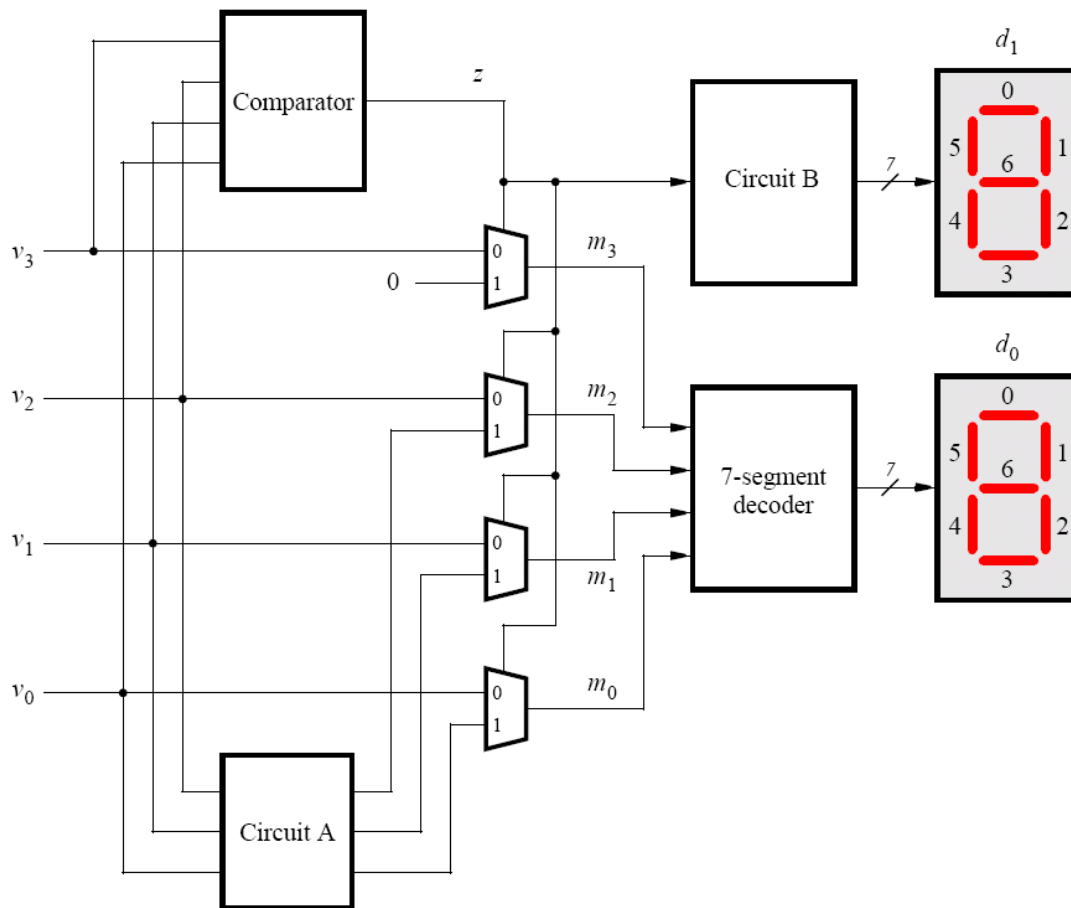

Figure 4 - Partial block scheme of the system that implements the binary-to-decimal conversion circuit.
You need to design a circuit that converts a four-bit binary number  $V = v_3 v_2 v_1 v_0$  into its equivalent two-digit decimal number  $D = d_1 d_0$ . Table 3 shows the required output values. A partial design of this circuit is given in Figure 4. It includes a comparator that checks when the value of  $V$  is bigger than 9, and uses its output to control the 7-segment displays. You need to complete the design of this circuit by creating a VHDL entity, which includes the comparator, some multiplexers and circuit *A* (do not include circuit *B* or the 7-segment decoder at this point). Your VHDL entity should have the four-bit input  $v$ , the four-bit output  $m$  and the output  $z$  (see Figure 5).
3. **Comment your VHDL code** and **include circuit *B*** in Figure 4 **as well as the 7-segment decoder**. Here the idea is to have a separate entity for the BCD converter and to reuse the previous VHDL exercises for the upper level architecture. Change the inputs and outputs of your code in such a way that switches *SW*3-0 on the DE2 board are used to represent the binary number  $V$ . Moreover, use the displays *HEX*1 and *HEX*0 to show the values of the decimal digits  $d_1$  and  $d_0$ . Make sure you include the required pin assignments for the DE2 board in the project.
1. **YOU NEED TO WRITE THE VHDL CODE OF THE COMPLETE CIRCUIT IN FIGURE 4, CIRCUIT A, CIRCUIT B, MUXES... YOU CAN REUSE PART OF THE CODE OF THE PREVIOUS PARTS.**